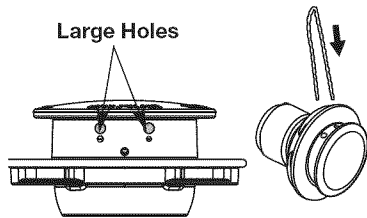

Fig. 11
4. Insert both ends of your line through the large holes in the side of the cutting head (Fig. 11).